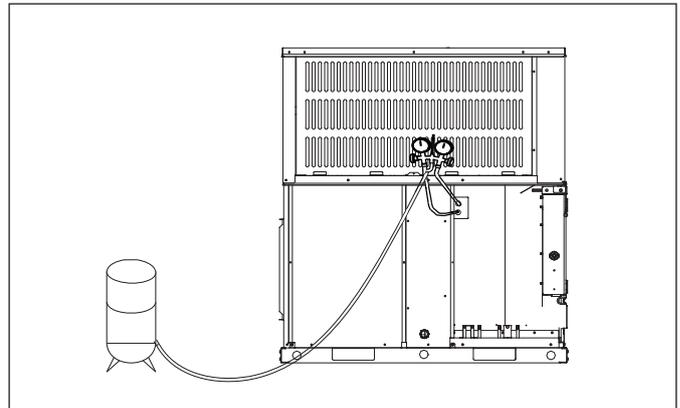

Figure 31
- Connect gauges to refrigerant bottle and unit as illustrated (Figure 31).